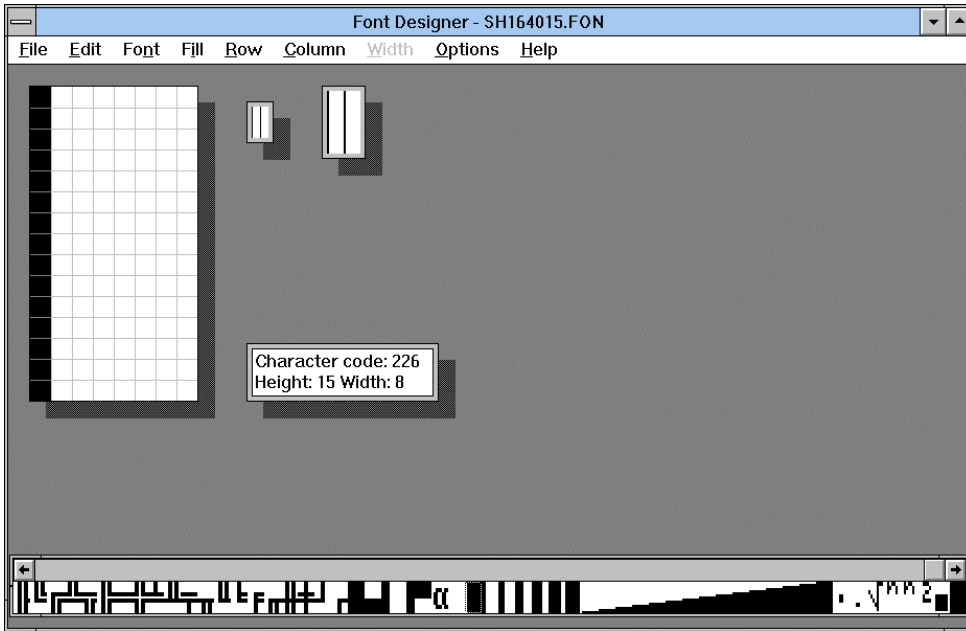

Figure 9-2
- **Bargraph Characters** - The start code for bargraphs is the first non-blank character within the bargraph character set. Keep in mind that the bargraph character set must be kept continuous (i.e., the characters must be kept in numerical order). An example of the start code is shown in Figure 9-2. *Note that the character code will not remain the same for each font.*